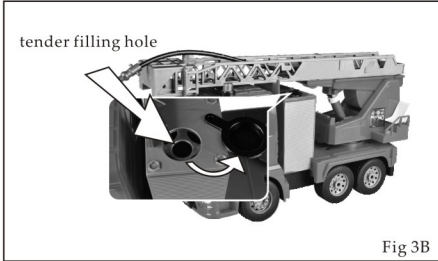

Fig 3B
2. To operate the function of spraying, open the water tank and fill it with clean water (in order to avoid damaging the car, the water tank should be empty, when the remote control car is not used or the function of spraying is not performed for a long period). (Fig 3B)